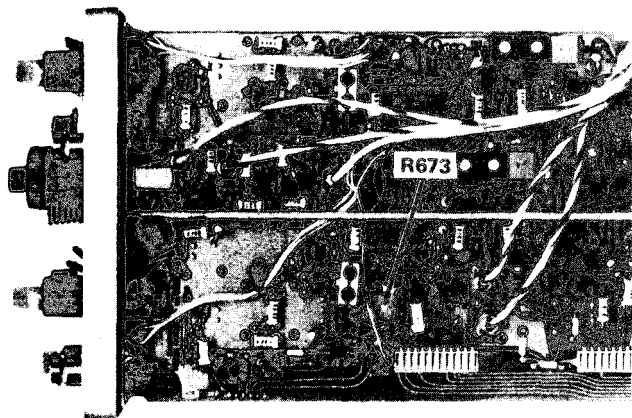

Fig. 5-22. Location of Trigger View Centering adjustment.
d. ADJUST-Trigger View Centering adjustment, R673 (see Fig. 5-22), so that the trace is at the center horizontal line.